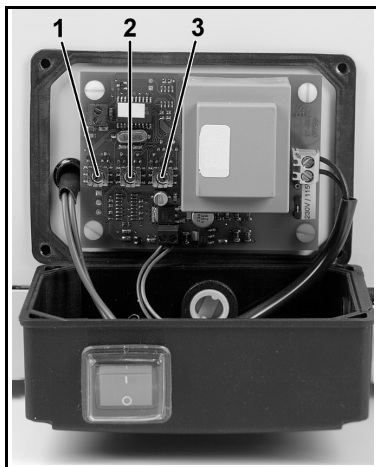

Fig. 5: Control box (opened) of drying system with switches 1, 2, 3
3. At the control box, loosen the collar nut of the cable inlet. Use a slotted screwdriver to release the four screws, then fold the cover forwards and lay it down (see fig. 5).
4. Set the desired values at switches S1, S2, and S3 (see fig. 5). See Table 8 for an explanation of the switches and for the values which can be set.